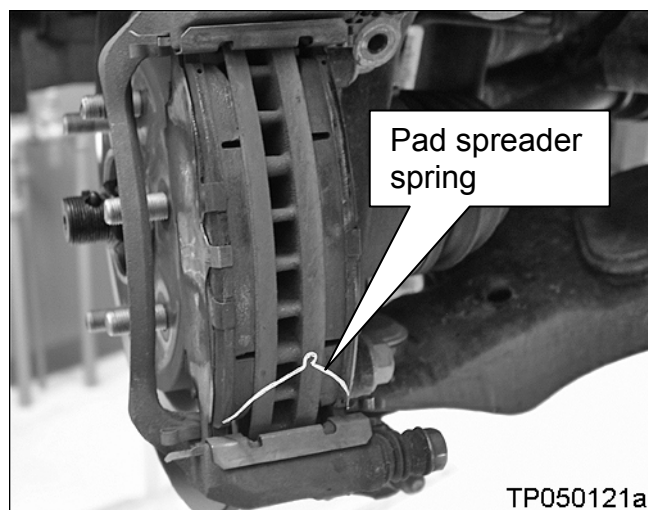

Figure 2
- Make sure to install the brake pad spreader spring as shown in Figure 2.